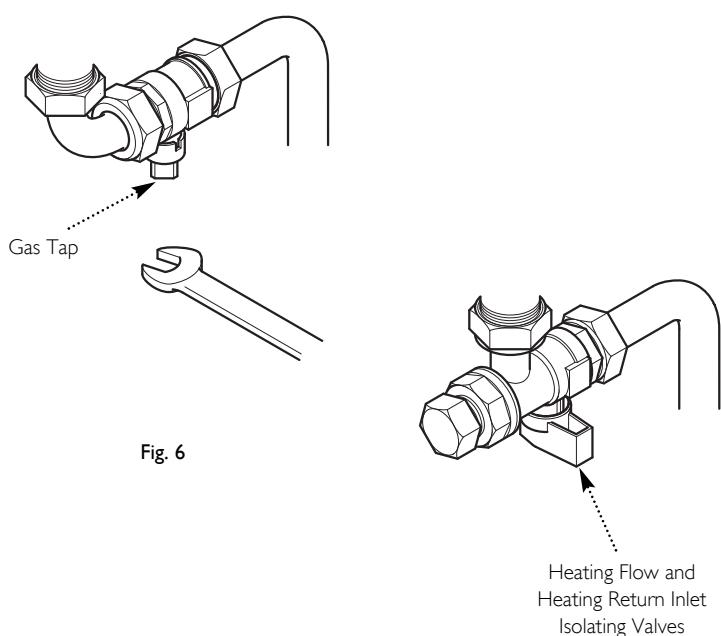

Fig. 6
1. Using a suitable open ended spanner, turn the square nut on the gas tap through 90° ( $\frac{1}{4}$  turn) to isolate the gas supply at the boiler (Fig. 6).
2. The water isolating valves are positioned under the boiler and can be closed by turning their taps to the right towards the wall (Fig. 6).